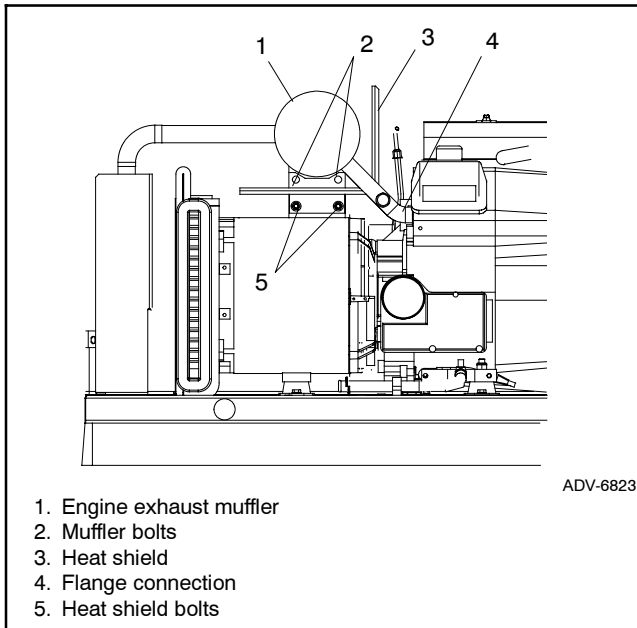

Figure 6-25 Exhaust System
10. Install the exhaust system. See Figure 6-25.